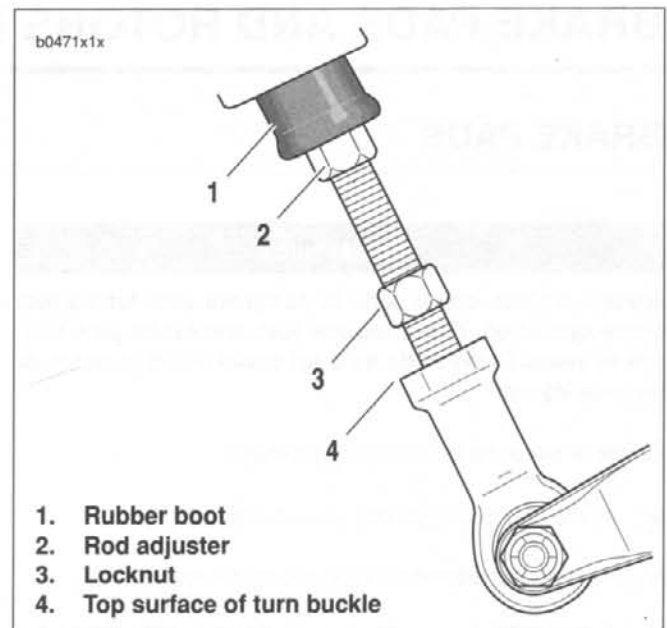

Figure 1-30. Pushrod Adjustment
1. See Figure 1-30. Slide rubber boot (1) upward.
2. Measure distance from bottom edge of rod adjuster (2) to top surface of turn buckle (4).
- a. If measurement approximately 0.84 in. (21.3 mm), slide rubber boot (1) down over assembly. Brake pedal adjustment is not needed.
- a. See Figure 1-30. Loosen locknut (3) while holding rod adjuster. Move locknut away from top surface of turn buckle.
- c. Return locknut (3) to fit flush against top surface of turnbuckle (4).
- d. Slide rubber boot (1) down over rod adjuster (2).